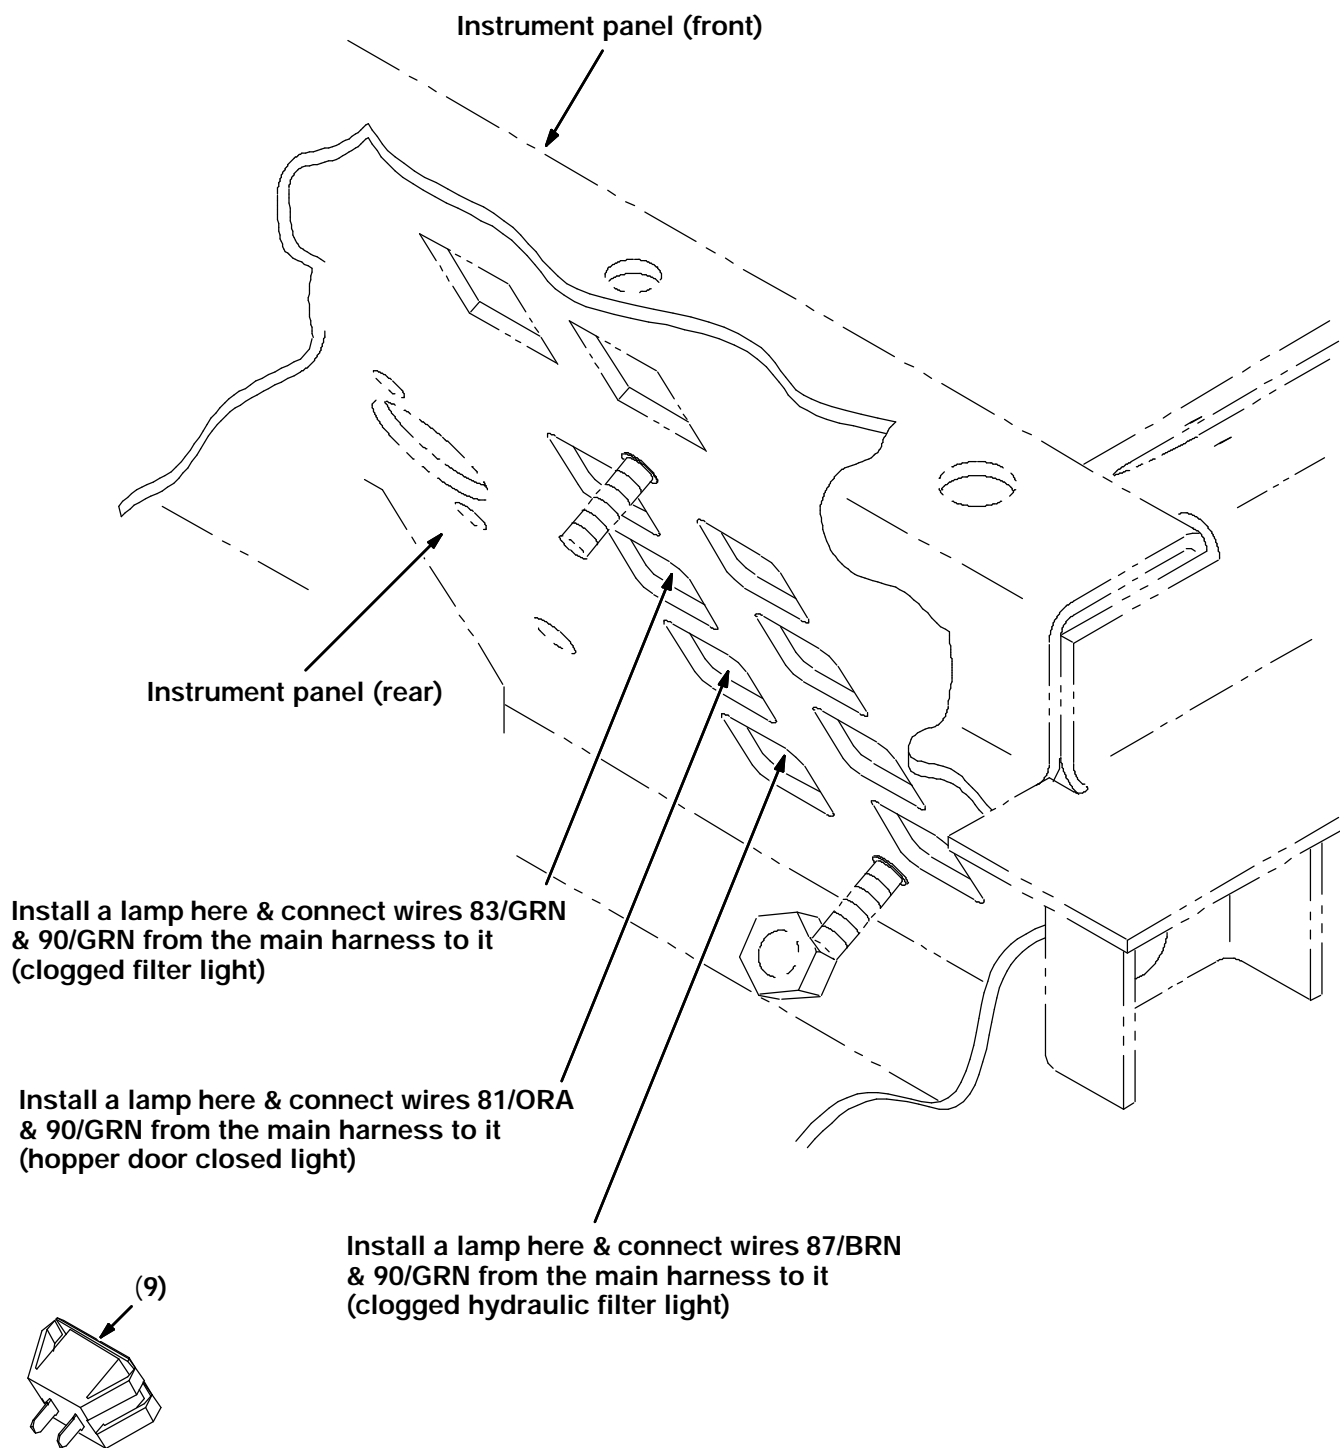

FIG. 4 - Installation of Indicator Lamps Behind Instrument Panel
(Refer to FIG. 4)
1. Install the instrument panel lamps (9) behind the instrument panel. *(Refer to FIG. 4)*
2. Wire each lamp according to the instructions in **FIG 4**.